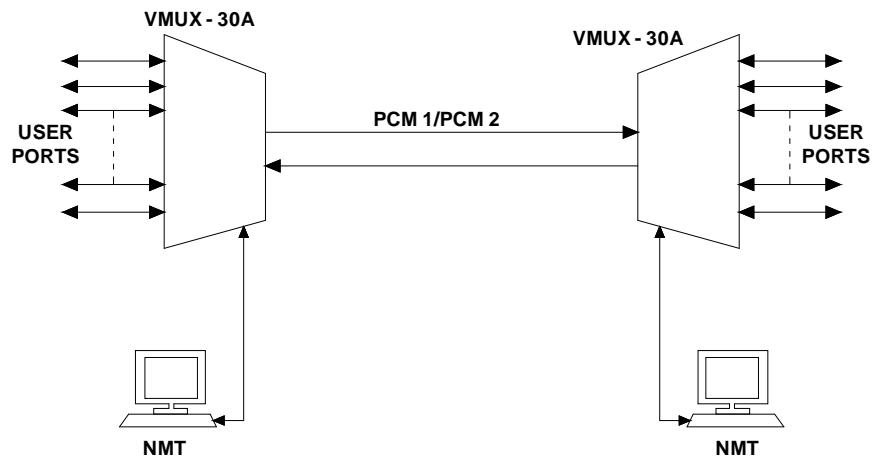

Fig. 1.3 Point-to-point application
1. Single link operation (point to point): System is controlled by NMT. When the NMT is near the VMUX V.24/ RS 232 link can be provided by connecting a cable between the serial port and the COM 1 on the GMAP module. A modem link can also be used to cover longer distances. For E1 system the maximum available time slots are 30. If the NMS uses a main link time slot then the available time slots are 29. Please refer fig. 1.3